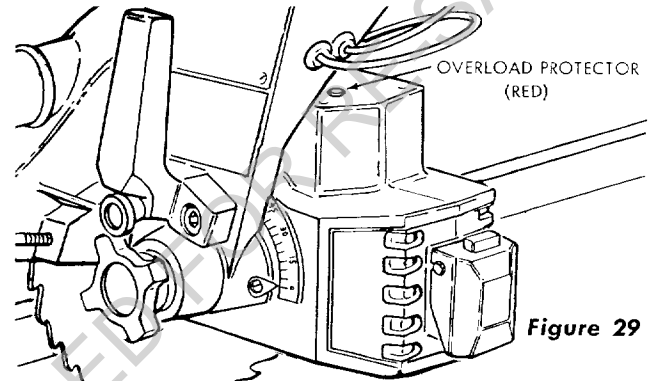

Figure 29
- After cooling to a safe operating temperature, the overload protector can be closed manually by pushing in the red button on the motor cover and nameplate. (See figure 29.) If the red button will not snap into place immediately, the motor is still too hot and must be allowed to cool for a while longer. (An audible click will indicate protector is closed.)